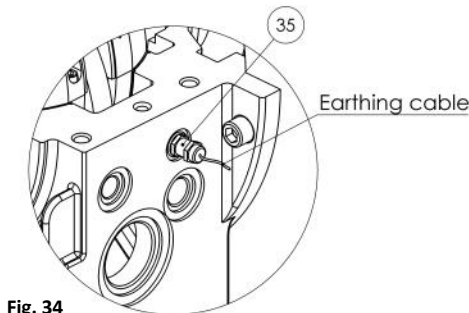

Fig. 34
- Lead the cable through the cable gland (35) in the lower housing and then out of the bearing (Fig. 34).